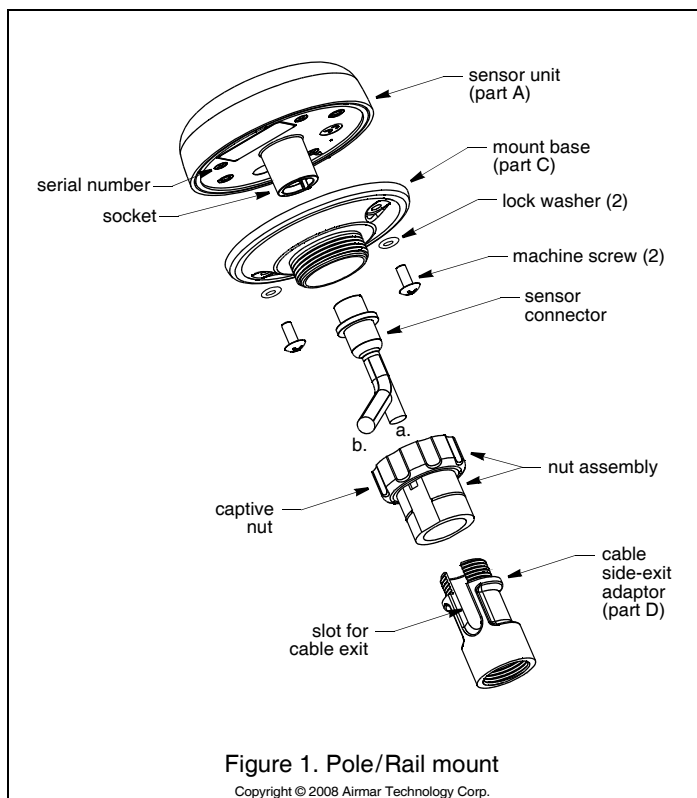

Figure 1. Pole/Rail mount
1. Remove the label from the sensor unit's socket (see Figure 1). Fasten the mount base (part C) to the sensor unit (part A) with the two machine screws and lock washers supplied. The torque for the screws is 1.35Nm.